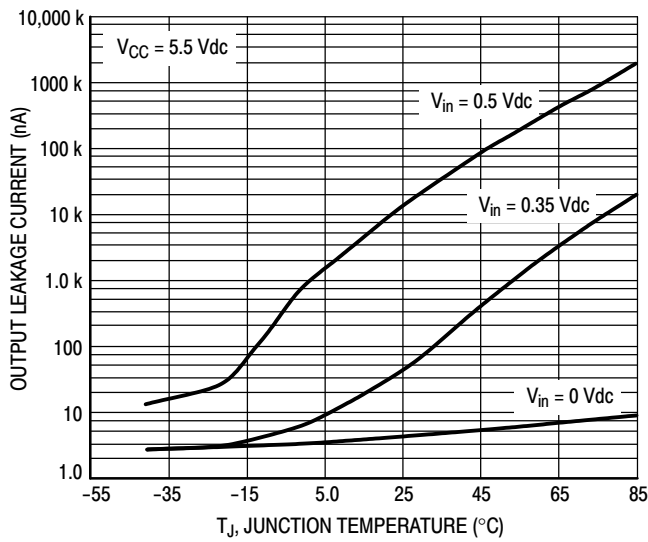

Figure 8. Output Leakage Current versus Temperature
8. Using Figures 8 and 9, insure that “OFF” state leakage over temperature and voltage extremes does not violate any system requirements.